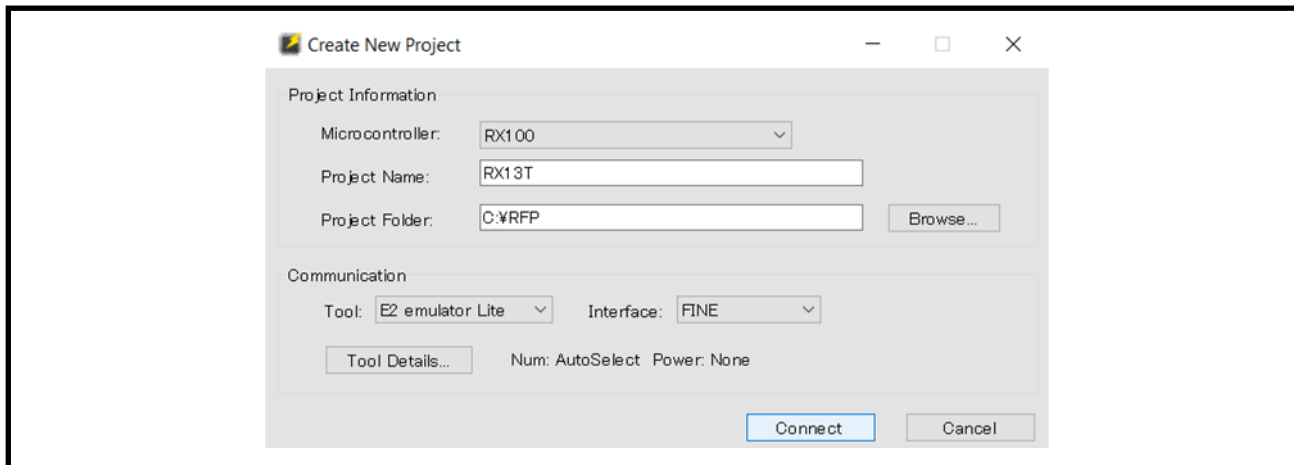
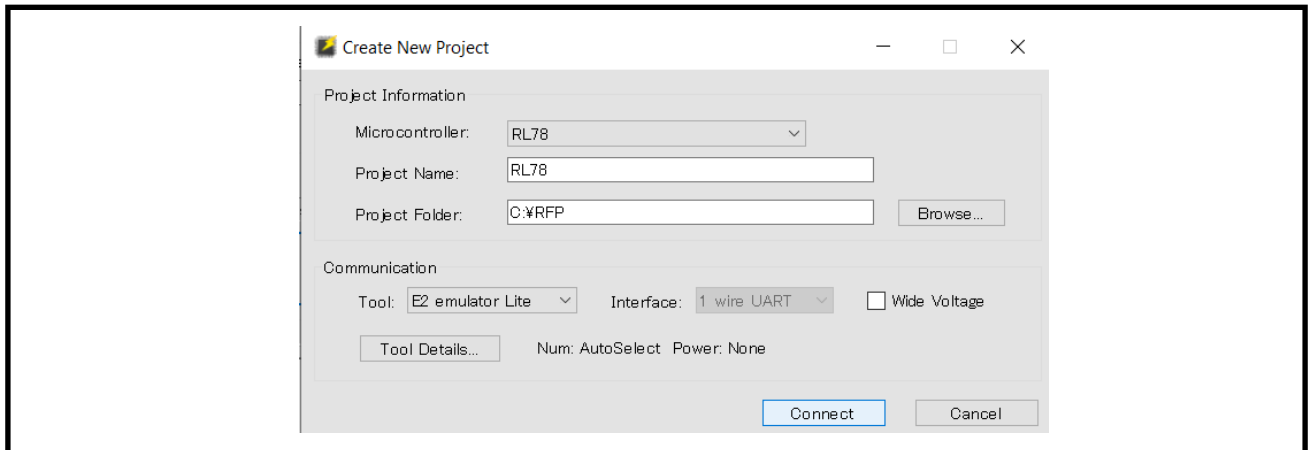

Figure 5-5 Create New Project (RX13T)
Figure 5-7 Create New Project (RL78/G1F)
2. Execute Renesas Flash Programmer, then connect from menu "File" > "New Project..." in reference to **Figure 5-5** or **Figure 5-7**. ^{Note1}